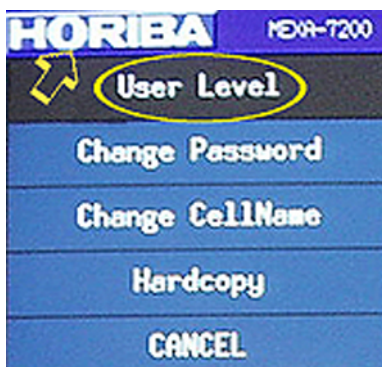

Figure 22
- 127 In the title bar, click on the Horiba logo button. See the arrow in Figure 22. Click on “User Level.” See the circle in Figure 22.